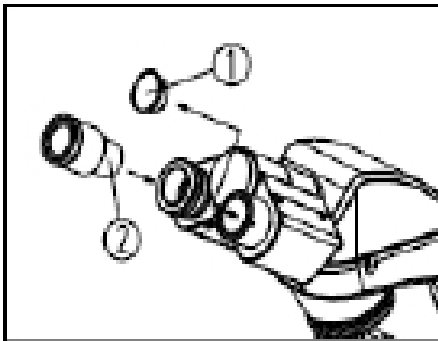

Fig. 4
1. Remove the eyetube cover (1)
2. Insert the eyepiece (2) into the eyetube. Ensure it is fully inserted (See Fig. 4) .